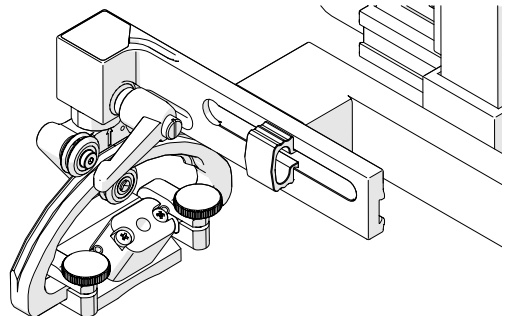

Fig. 189 - Probe/wedge affixed to probe holder
5. Mount the probe/wedge (Fig. 189) to the long stroke vertical probe holder (see *"Probe Holder Setup"* on page 96).